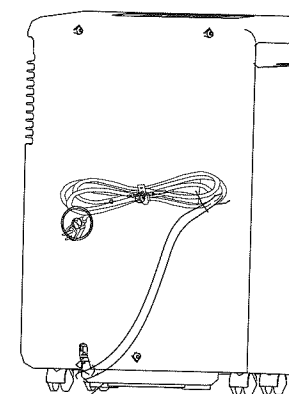

FIG. 14: Cord Storage
- Wrap the cord and bundle it with the band on the unit. (See Fig. 14.)